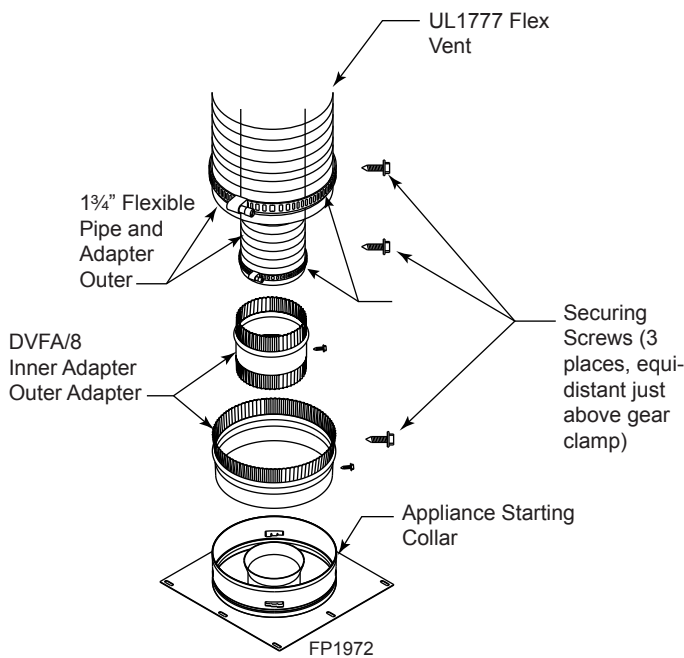

Figure 34 - Typical Appliance Connection
2. The flex adapter starter kit (DVFA/8) is used to attach flex venting to the appliance starting collar. It includes 4" inner and 7" outer adapter rings. *Figure 34*
- A. Installing the inner flex adapter and pipe. *Figure 34*
- B. Installing the outer flex pipe. *Figure 34*